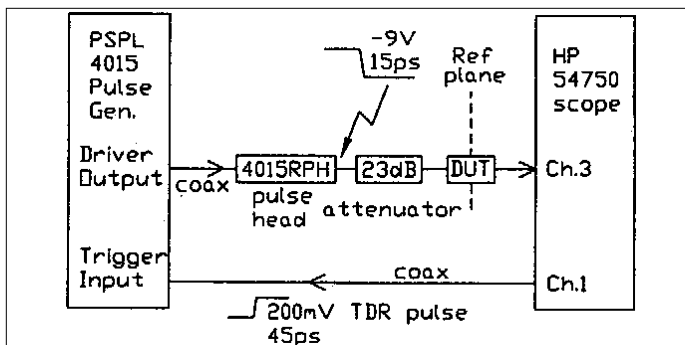

Figure 3: 10 ps TDT Measurement Setup
For pulse transmission TDT network measurements using an external pulse generator, the HP 54750 or 83480 uses the channel 1 TDR pulse as the external trigger signal, and the Device Under Test's (DUT) output signal is observed on either channel 3 or channel 4. Using the built-in 200 mV, 45 ps TDR test pulse and normalization, the HP scope will give good normalized results for risetimes down to 20 ps. For even faster normalized risetimes, the digital filter ringing noise becomes very objectionable. The risetime of the 50 GHz samplers is 9 ps and thus is not the limiting factor. The limitation is the slow, 45 ps risetime of the HP TDR pulse. To get below 20 ps requires that a faster risetime pulse source be used. This is where the 15 ps falltime of the 4015 pulser is needed. For 10 ps TDT, connect the scope and pulser as shown in Figure 3. The 23 dB of attenuation on the output of the pulse head is necessary to protect the scope's samplers. The 4015's 9 Volt pulse is sufficient to destroy the scope's sampling diodes. Depending upon the desired input signal amplitude to the DUT, the attenuators may be placed either before or after the DUT.
To start a 10 ps TDT measurement, first connect the instruments as shown in Figure 3 without a DUT. Put the HP scope into its TDR/TDT mode of operation. Position the test pulse in the desired location on the scope's screen. Next the scope must be calibrated for normalization. This is done by letting the scope measure and store in memory the actual input test signal. One then selects the desired normalized risetime. The scope then automatically proceeds to do the normalization and displays the results on the screen. Figure 4 shows the "before" and "after" results of normalization. The top trace is the 15 ps 4015 pulse as measured by the HP 50 GHz, 9 ps sampler. The time window is 100 ps (i.e., 10 ps/div). The bottom trace is after normalizing with a 10 ps risetime filter. The falltime is now in fact 10 ps, and the pulse has a very nice Gaussian waveshape and is free from the overshoot and ringing seen on the input 4015 pulse. A detailed examination of the 10 ps pulse's baseline or topline will reveal a small amount of "Digital Filter Ringing". This ringing will limit the ultimate TDT system resolution.
2. Consult Figure 3 for the 10 ps TDT test setup. Attach a 2.92 mm / 2.4 mm (or 3.5/2.4 mm) coax adapter to the input of channel 3. Attach a 20 dB and 3 dB attenuator to the 3.5/2.4 mm adapter. PSPL Model 5510-K, 40 GHz, 2.92 mm attenuators are recommended. Attach the PSPL Model 4015RPH Pulse Head to the attenuators. Use a short, microwave-quality, coax cable to connect the 4015 pulse generator "Driver Output" to the Pulse Head. Use an ordinary, 3 ft., SMA coax cable to connect the TDR output pulse from the HP scope's channel 1 connector to the 4015 pulse generator's SMA "Trigger Input" connector. If you are using the 4015C, then also set the Rep. Rate control to "EXT".